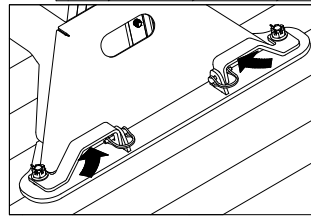

FIGURE C2:
2. Once the base is in place, turn each of the latch handles as shown in figure C2. It is critical that the base be drawn firmly down onto the attachment points. You should feel some resistance while turning the handles as the base is drawn down. If any of the handles will not close or if they rotate freely with no resistance, the tension on the latch handles will need to be adjusted.